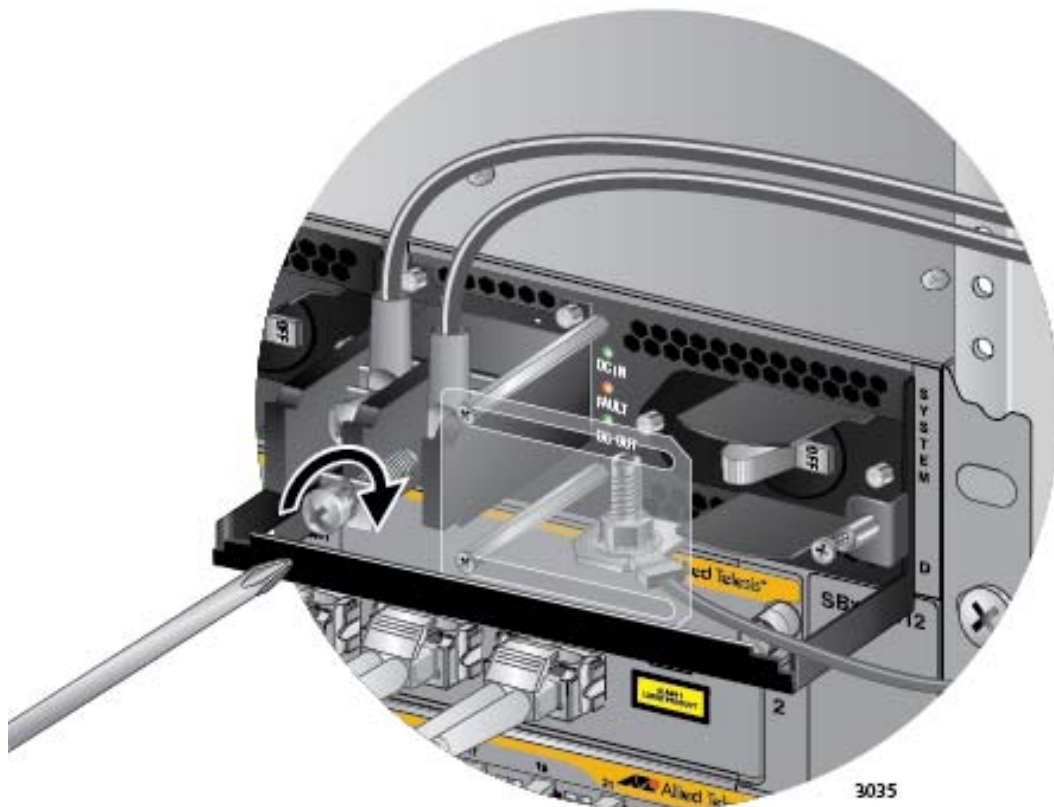

Figure 144. Connecting the Negative (-) Power Wire with a Straight Terminal
7. With a #3 Phillips-head screwdriver, connect the negative (-) power lead wire to the negative terminal on the power supply, with the remaining terminal screw removed in step 5. The negative terminal is on the right. You may attach the terminals with the wires either above or below the terminal block. Figure 144 on page 223 shows the wires above the terminal block.